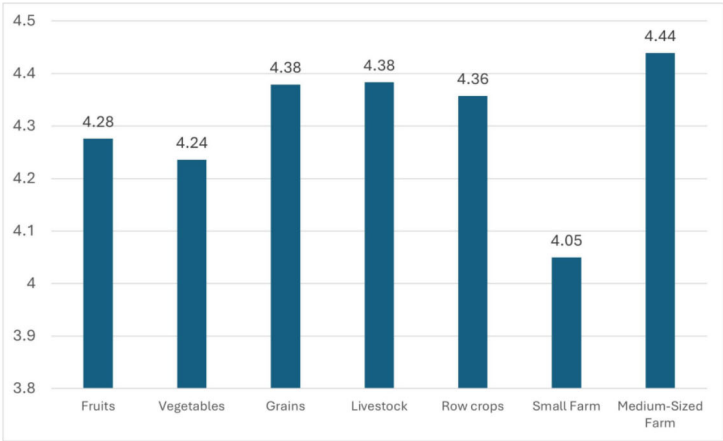

Figure 4. Average Level of Success by Farm Type and Size.
Figure 4 shows the average level of success reported when the farm owner/operator was asked how successful they consider their business. The scores ranged from 1, which indicated *very unsuccessful*, to 5, which indicated *very successful*. On average, all enterprise types and sizes reported (on average) between *somewhat successful* (4) and *very successful* (5). However, medium-sized farms reported the highest level of success with an average of 4.44 compared to small farms’ average of 4.05. Of the